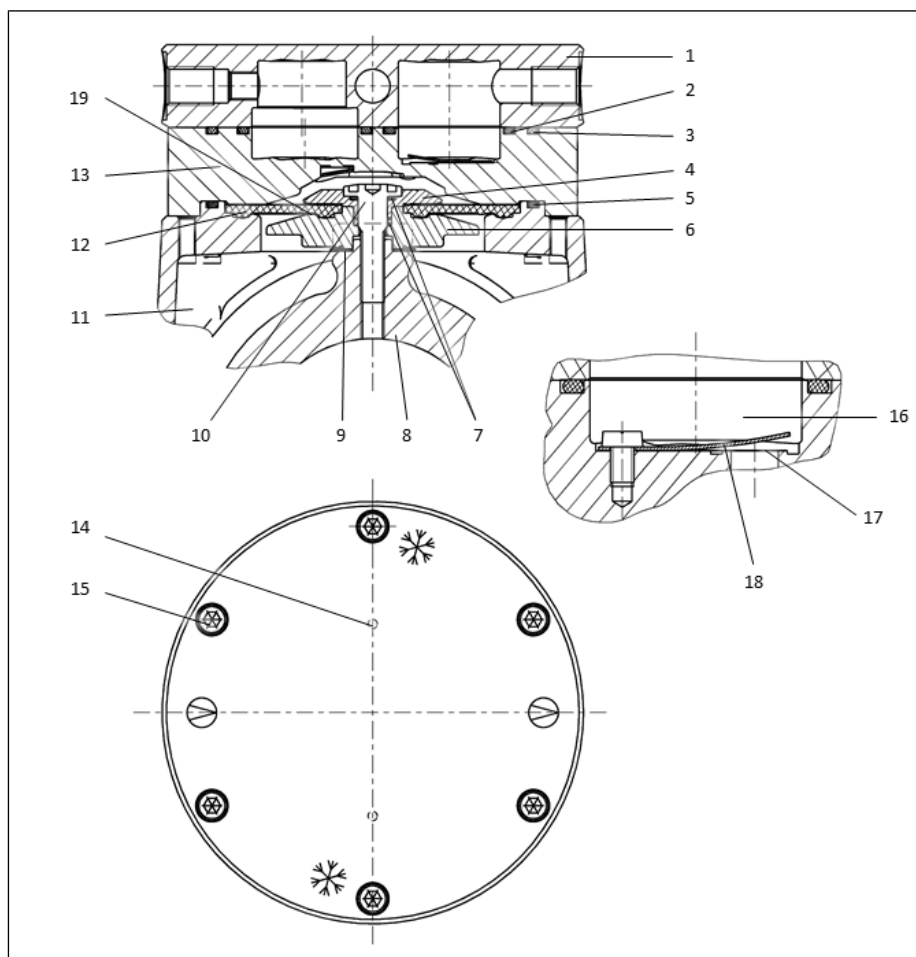

Fig. 18 Components of the pump head
** According to Fig. 18
i The following item numbers refer to Fig. 18 unless specified otherwise.